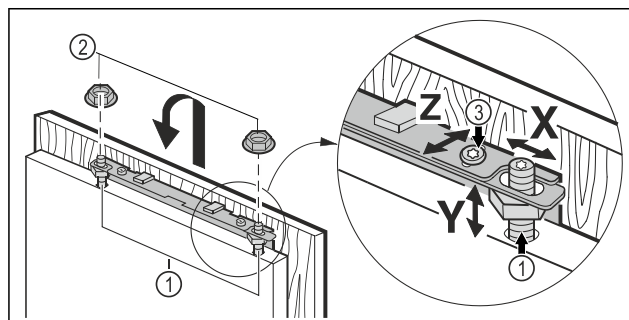

Fig. 46
- Hook the unit door onto the adjustment bolts Fig. 46 (1) and screw the lock nuts Fig. 46 (2) loosely onto the adjustment bolts.
- Align the unit door in height Y and in the lateral inclination: Adjust the adjustment bolt Fig. 46 (1) with a screwdriver.
- Tighten the lock nuts Fig. 46 (3).